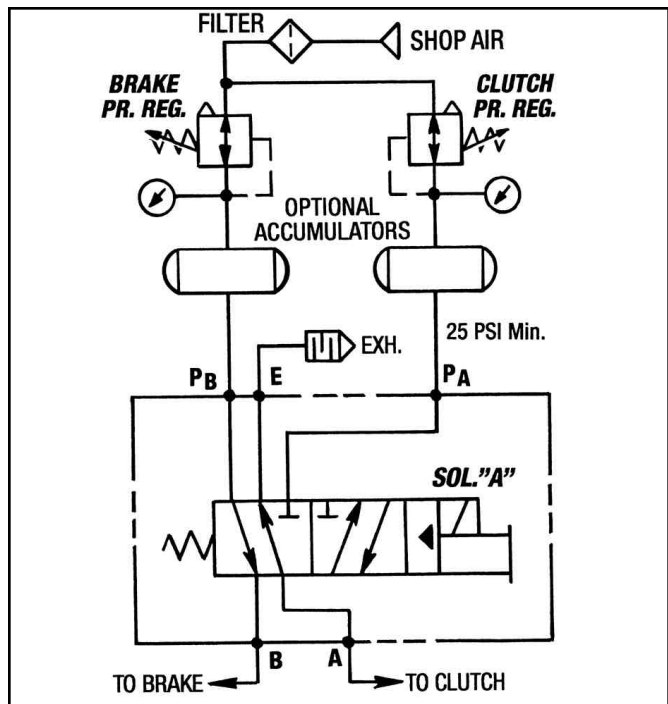

**Figure 3.4 - 2PI-3/8 Control Valve without Regulators** - Air operated clutch, Spring-set Brake with air assist. (S and SA Logics)
3. The optional accumulators should be used for quick response, particularly if the air line loss and the nature of the air supply is such that recovery is slow. Accumulators can only be used in pneumatic systems where the pressure regulators are installed before the accumulators as shown in *Figure 3.4* for the 2PI-3/8 Control Valve. Size the accumulator to be at least 10 times the air required per engagement (**See Table 2.1**)